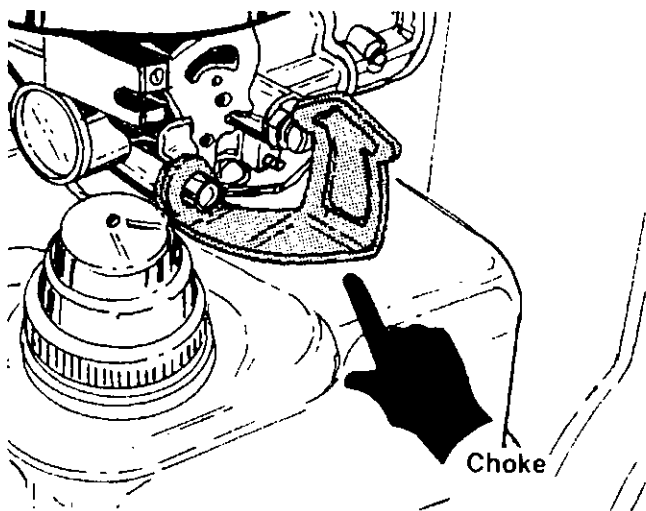

FIGURE 22.
2. Move choke lever to "CHOKE" position. See figure 22. After the engine starts, gradually push the choke lever off.